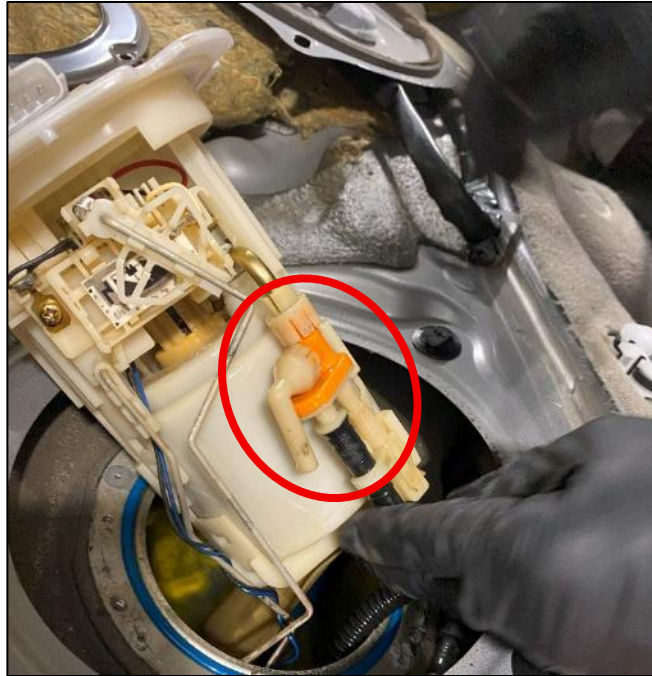

Figure 6
12. Carefully lift upwards to begin removing the Fuel Pump Basket Assembly. There is a Siphon Hose connected to the Fuel Pump securing it to the Fuel Tank. *Figure 6.*